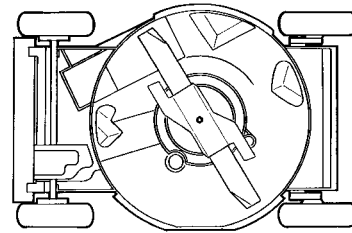

Figure 20
- Tip the lawn mower on its left side (Fig. 20).